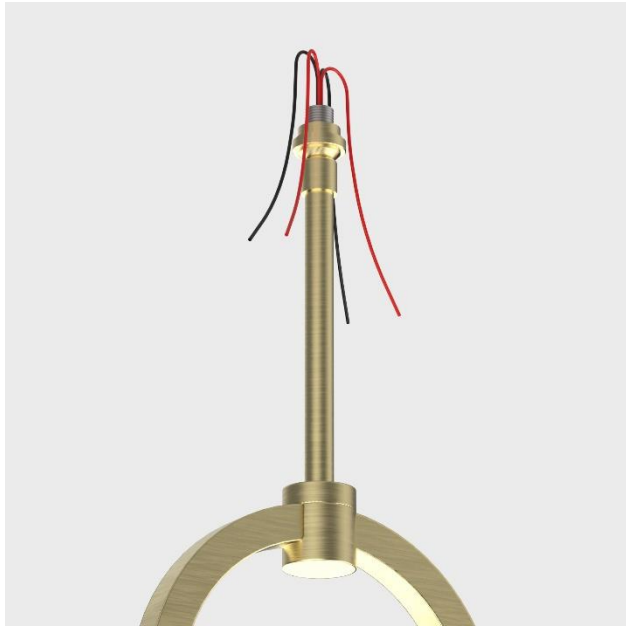

Figure 2
- Thread stem to top of the assembly (Figure 2).